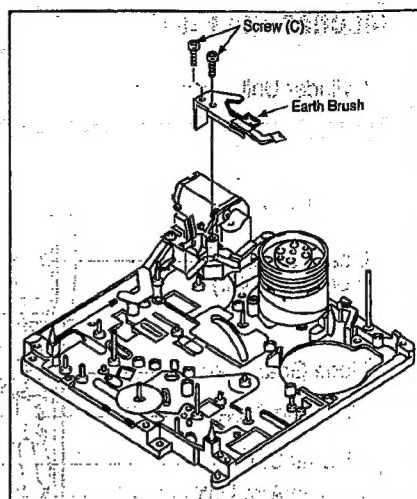

Fig. M3
| 2. Earth Brush | Fig. M3 | Unscrew 2 screws (C) and remove the Earth Brush. |